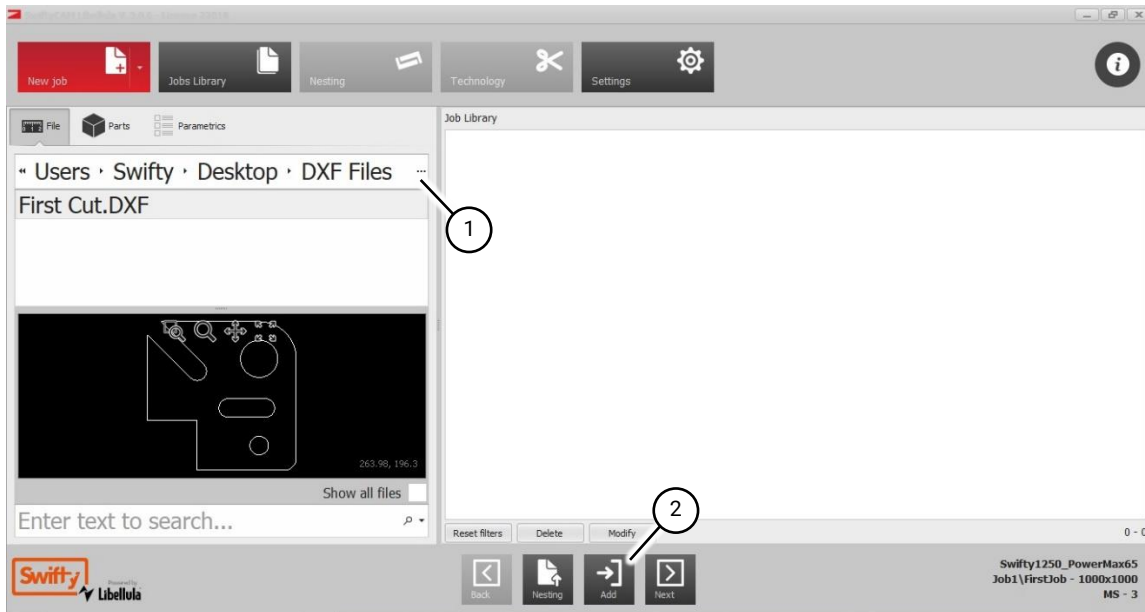

Fig 48 Selecting the file to import
1. On the File tab of the New Job screen, navigate to the location of the dxf/dwg file that is to be used for the task (Fig 48 shows an example).
1. If using a USB flash drive to load drawings, select the three dots at the end of the file path to reveal files on the USB flash drive (Fig 48 (1)).
2. Select the file to import and press the 'Add' button (Fig 48 (2)).